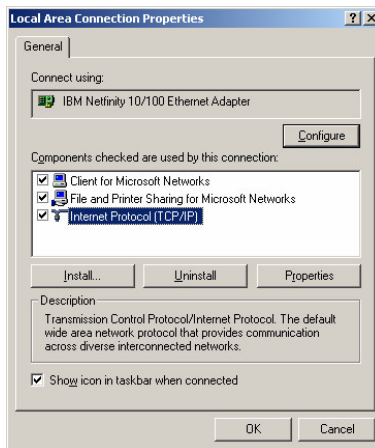

Figure 14: Local Area Connection Properties Window
5. Select the Internet Protocol (TCP/IP) and click the **Properties** Button (see Figure 14).